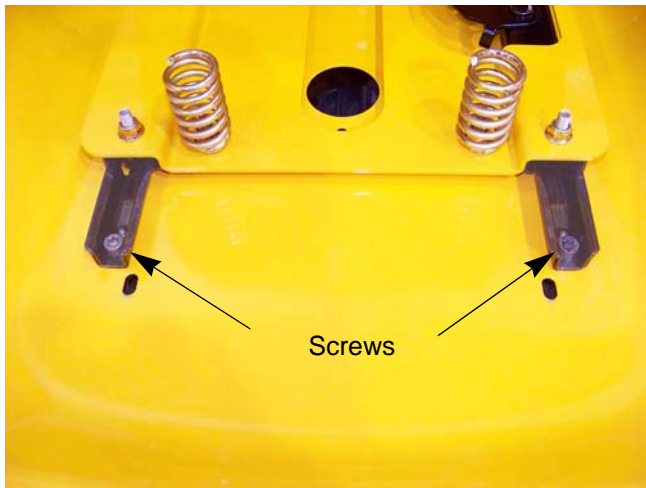

Figure 4.16
3. Remove the four socket headed cap screws that hold the seat tracks to the fender using a T-40 torx driver. See Figure 4.16.